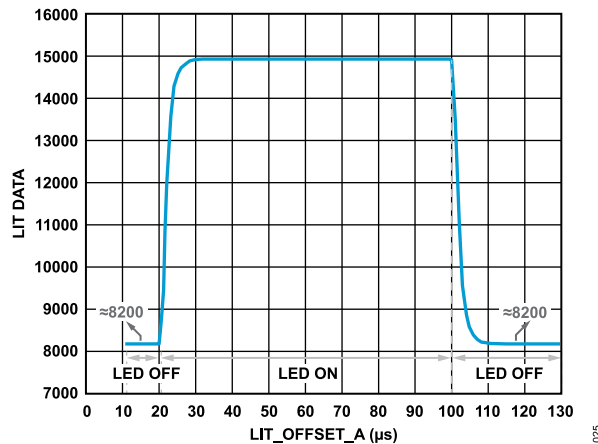

Figure 25. Timing of OSRAM FIREFLY CT DBLP31.12 (Green LED)
5. Plot the mean value of the lit data and LIT\_OFFSET\_A. The response time of the optical device (for example, OSRAM FIREFLY® CT DBLP31.12) is shown in Figure 25.